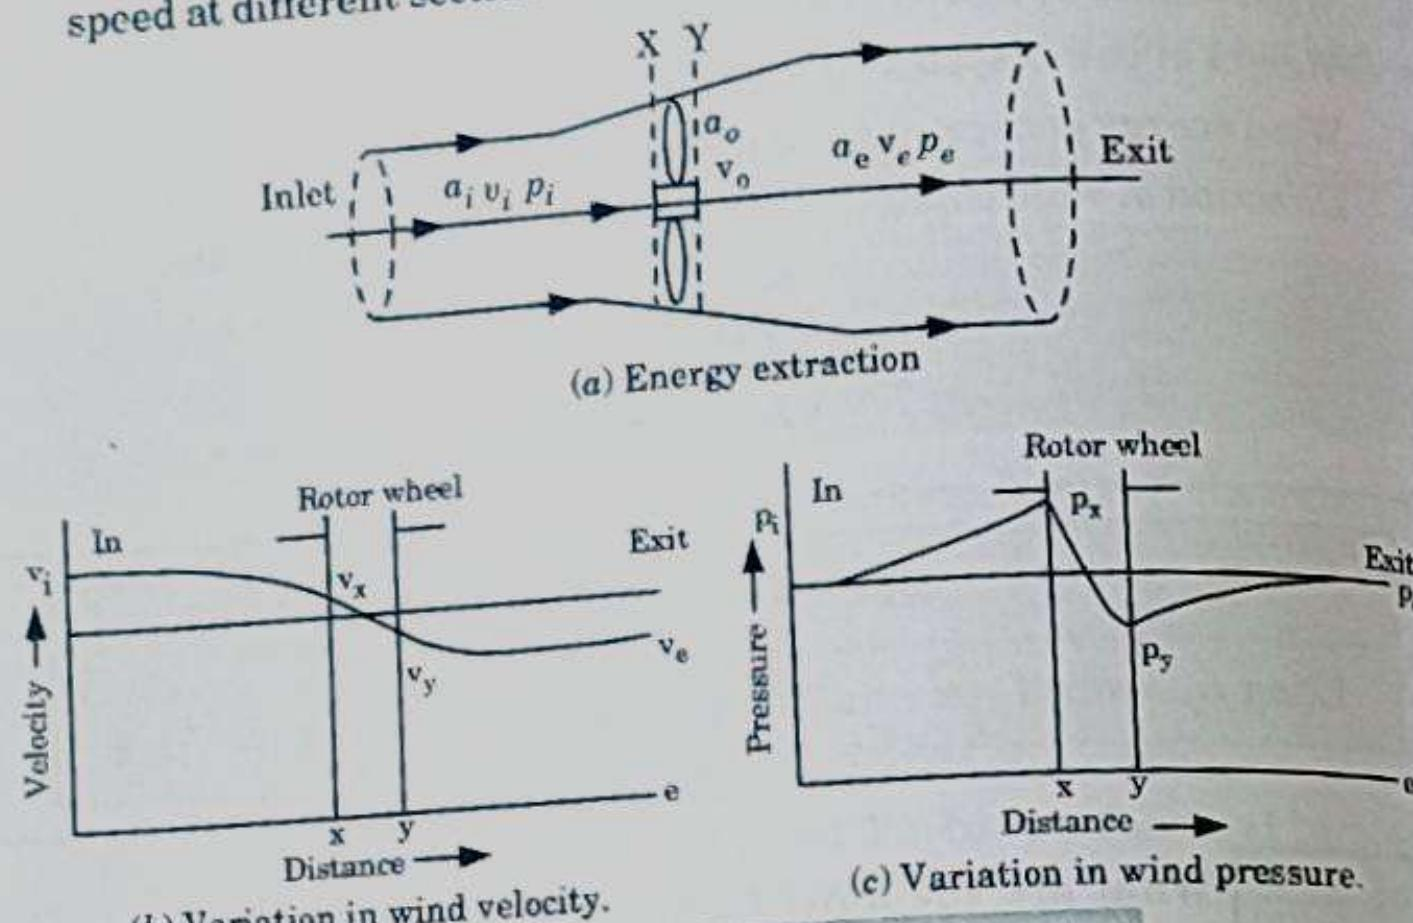

Fig. 4.12.1. Air flow through the rotor.
- Fig. 4.12.1 shows the air flow diagram on rotor, with variation of wind speed at different sections.